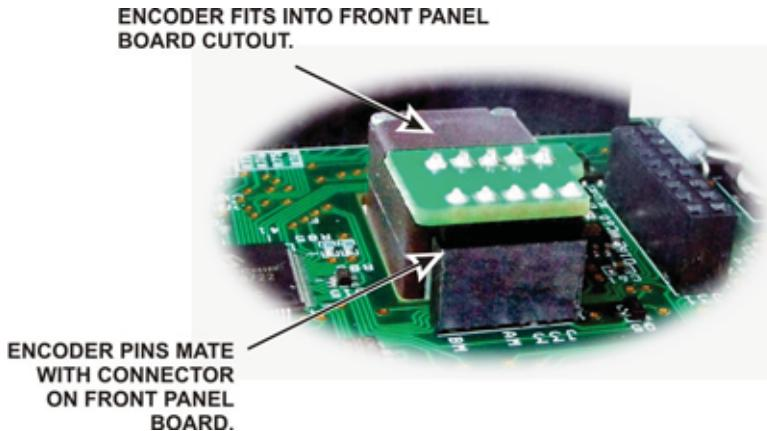

Figure 42. Mounting VFO Encoders.
- Place the VFO A encoder in the opening near the center of the front panel board so the shaft protrudes through the opening under the LCD. Be careful to avoid dropping the lock washer into to the space between the front panel board and the front panel. Normally, the lock washer hangs on the threads while you put the encoder in place. Optionally, you can hold the encoder with the shaft upright and place the front-panel assembly over it until the shaft is through the hole. Orient the encoder so the pins mate with connector J33 on the front panel board as shown in Figure 42.